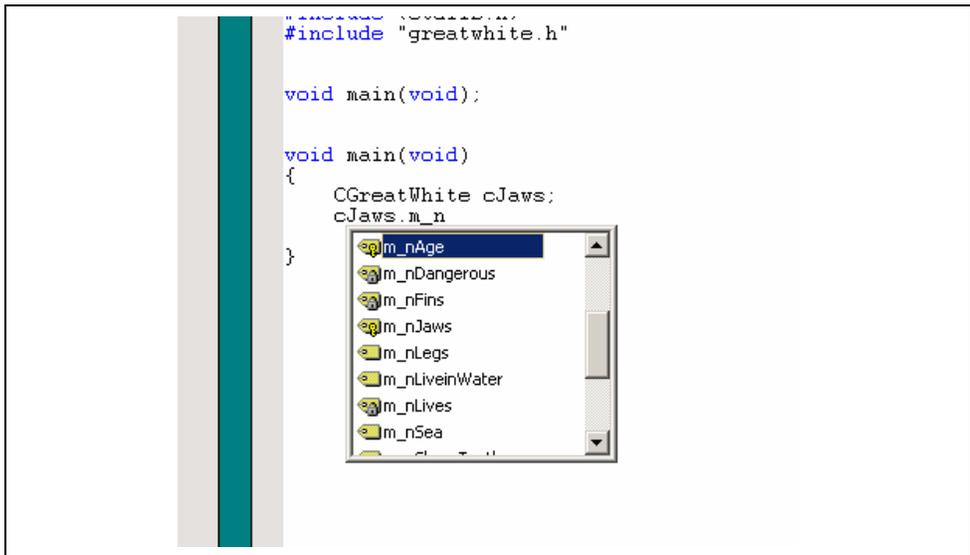

Figure 14.2: Smart-edit member selection
- ☞ If you are using an object and are trying to access the members using the '.' or '>'. If you do this a pop-up will be displayed which may help you select the correct member more efficiently than typing. Whilst typing the pop-up will keep track of the keys you have pressed to help your selection. If you press return then the currently selected member will be added. This pop-up is also used when using the '::' method and it is displayed in figure 14.2.